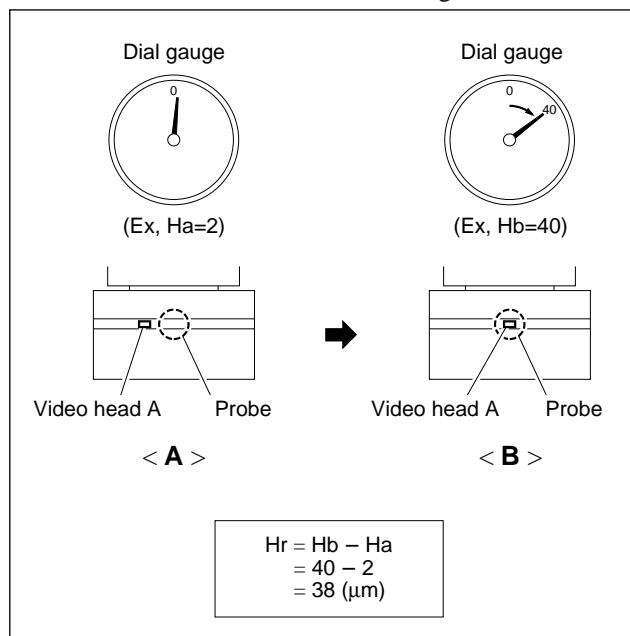

Figure 4. Example of Head Tip Protrusion Measurement
1. Rotate the upper drum manually counterclockwise (⤿) very slowly to approach a video head aside of the probe. (Refer to <A> in Figure 4.)
3. Rotate the upper drum manually counterclockwise (⤿) very slowly to center the video head in the probe. (Refer to  in Figure 4.)